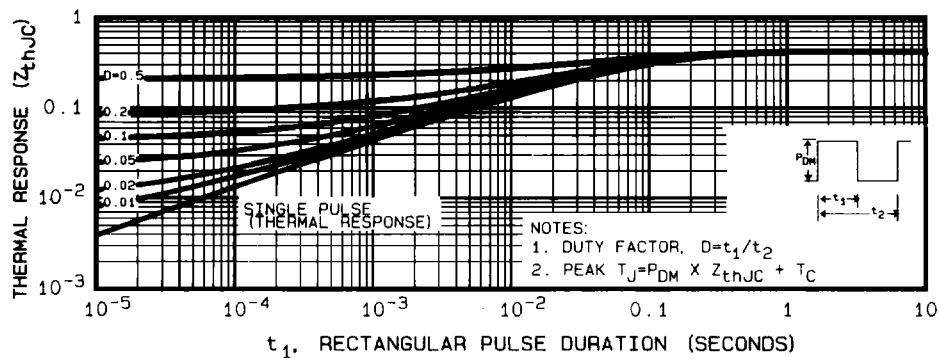

Fig. 5 - Maximum effective transient thermal impedance, junction-to-case vs. pulse duration.
See Transient Thermal Impedance Curve (Figure 5).
① Repetitive Rating; Pulse width limited by maximum junction temperature (see figure 5)